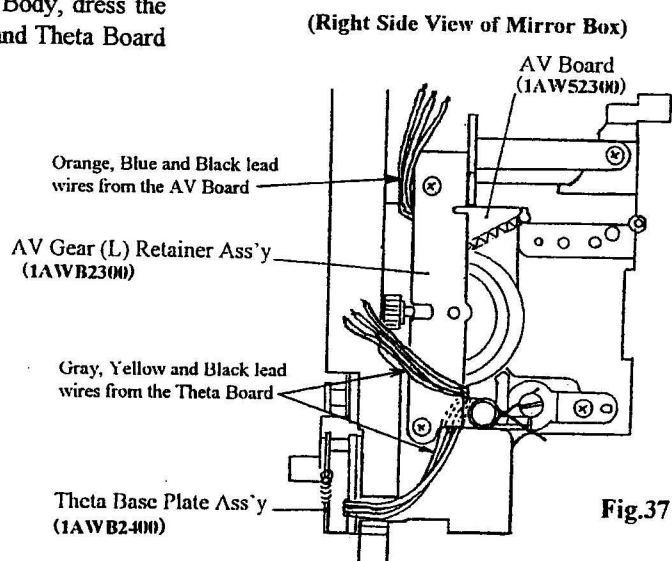

Fig.37
- a) Before installing the Mirror Box in the Body, dress the lead wires coming from the AV Board and Theta Board as shown in Fig. 37.